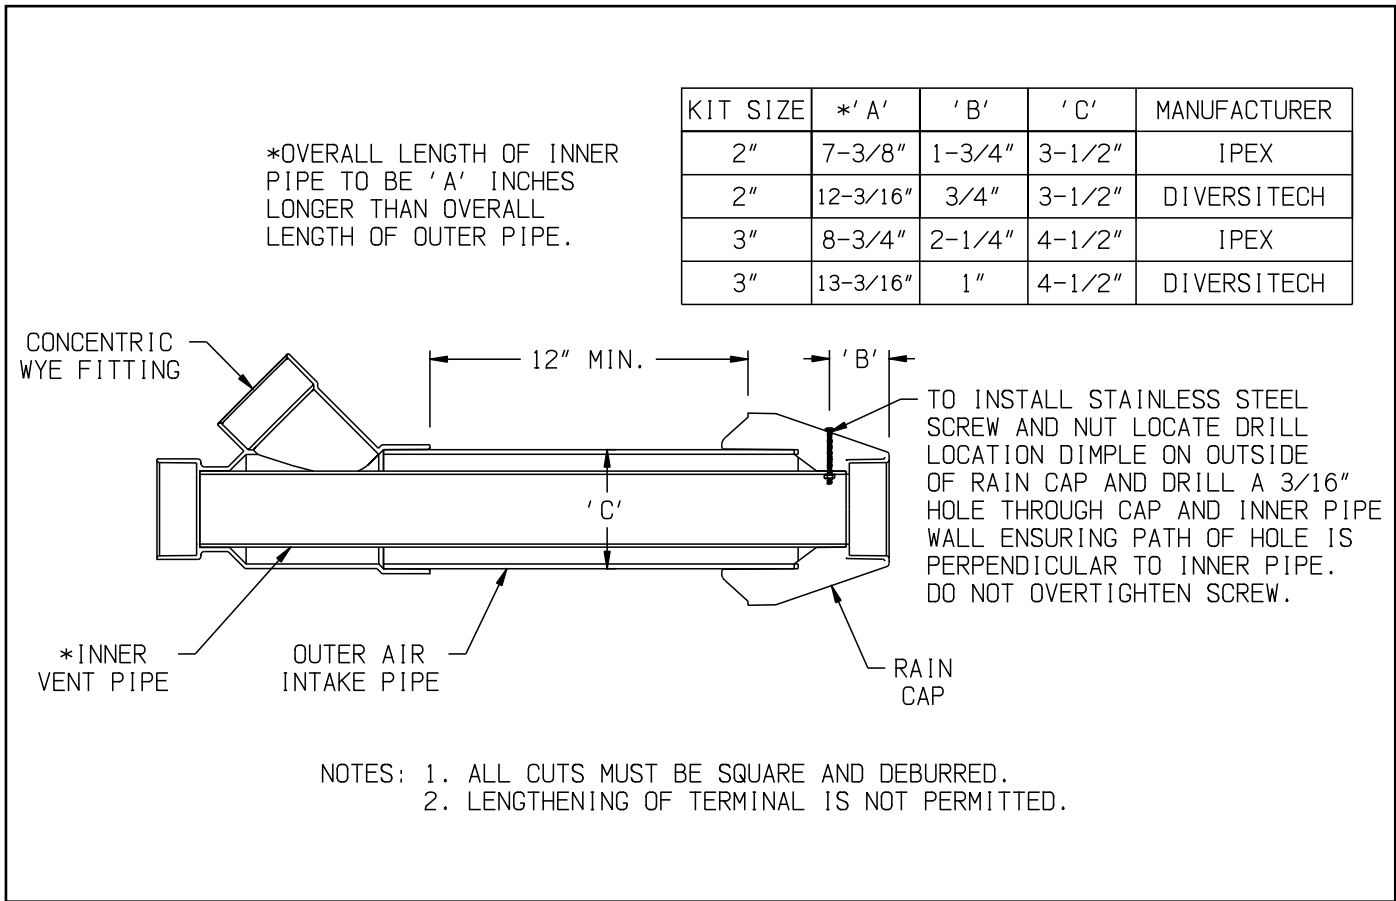

Figure 7.32: Cutting IPEX and DiversiTech Concentric Vent Terminals
- a. For horizontal installations at the planned location cut a round hole in the exterior wall 1/2” larger than the “C” dimension indicated on Figure 7.32 for the size terminal being used. (See Part VII-B of this manual for permitted terminal locations).
- c. If desired, the terminal can be shortened. See Figure 7.32 for specific information on making the terminal kit shorter based on the kit size being used. Cut the pipe squarely and de-burr both the OD and ID of the cut edges.
- h. Cement the rain cap onto the inner pipe. If desired, the rain cap can be attached to the inner pipe with the supplied stainless steel screw and nut so that it can be later removed for cleaning and inspection. If this is done, drill a 3/16” clearance hole in the rain cap and inner pipe in the location shown on Figure 7.32 for the size terminal kit being used and affix screw and nut. Do not overtighten. A field supplied rodent screen may also be installed on the end of the rain cap.